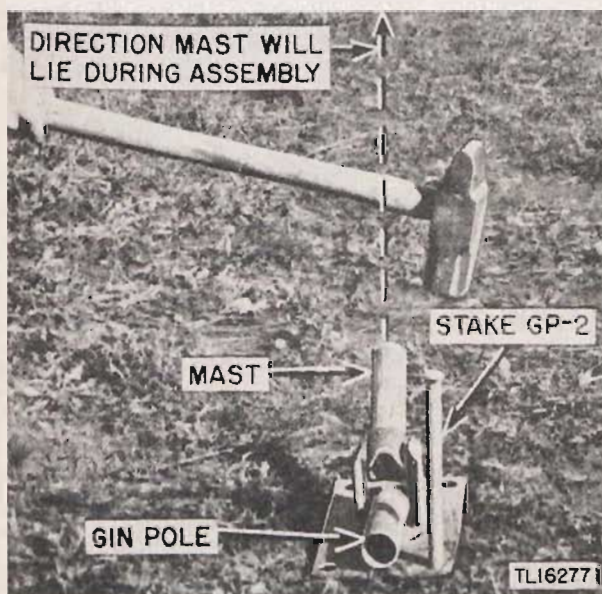

Figure 29. Driving stake in mast base.
b. Place the mast base at the location previously chosen, with one side facing the direction in which the mast will be during assembly. Drive four Stakes GP-2 through the holes in the mast base (fig. 29).